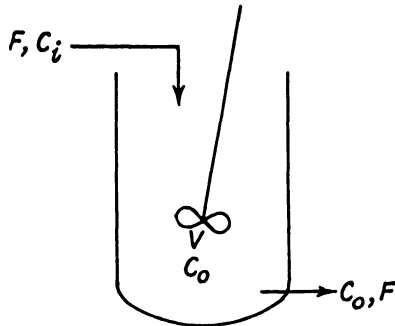

Fig. 1.11
**1.21. For a stirred tank chemical reactor** shown in Fig. 1.11 deriving  $C_o'(s)/C_i'(s) = R/(Ts + 1)$ . Assume the reaction is of first order and isothermal.  $F$  = feed rate ;  $V$  = volume of reactor,  $C$  = concentration,  $t$  = time.
Using unsteady mass balance equation for the CSTR shown in Fig. 1.11.